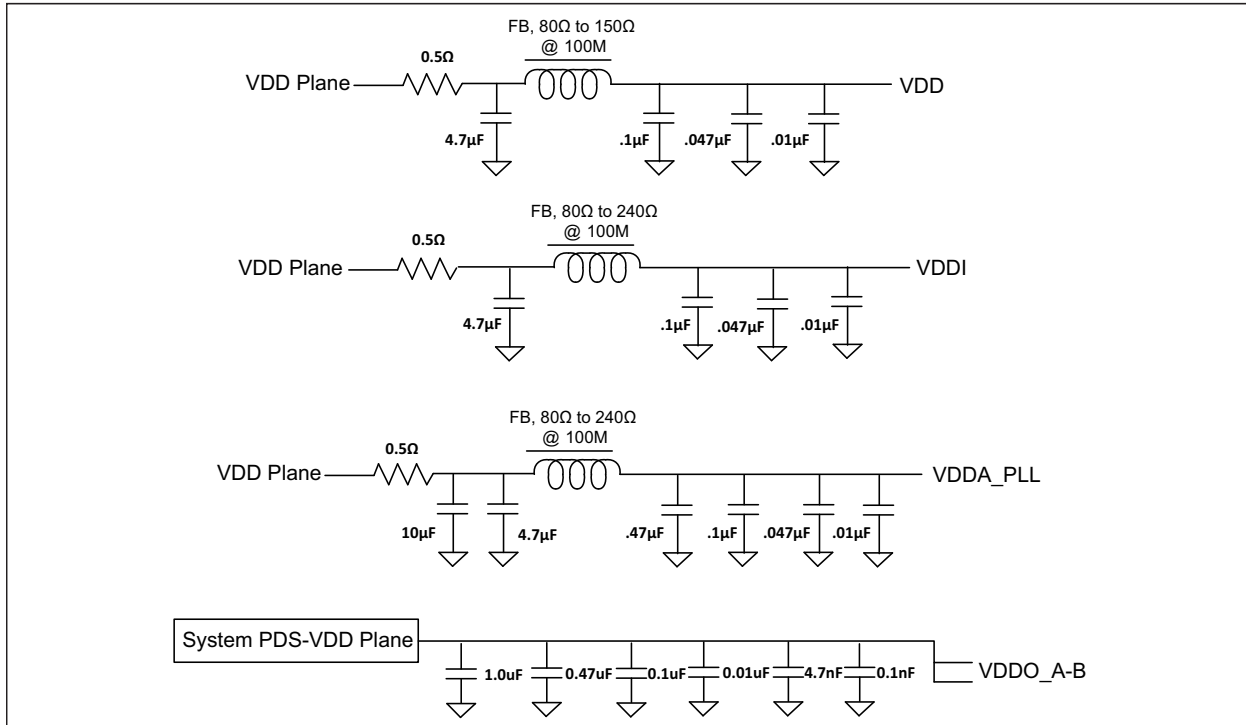

FIGURE 5-1: Recommended Power Supply Filtering.
- Use the power supply filtering shown in Figure 5-1 for V_{DDAPLL} and V_{DDI} .